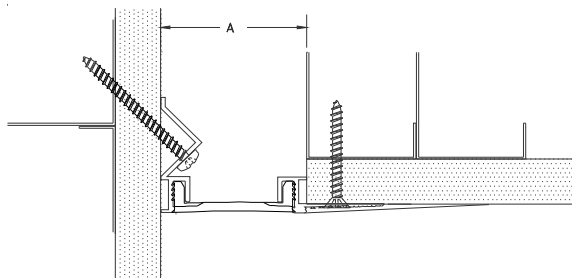

Figure 9
**STEP 11.** Repeat the procedures provided in Step 3 and Step 8, as applicable, for each section of the joint cover system. Ensure that the joint cover system is level, firmly supported, and properly aligned. If the edges of the base members are to be feathered, do so at this time (see Figure 9). Balco, Inc. does not provide materials for use in feathering the base member edges. Wipe away any excess feathering materials from the aluminum base members and the elastomeric seal. Apply the feathering material in accordance with the feathering material manufacturer's instructions.